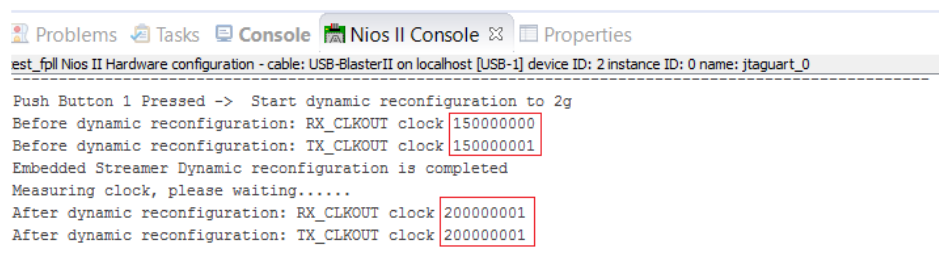

Figure 8. Result of Push Button 1 is pressed
15. When Push Button 1 is pressed, the design starts dynamic reconfiguration to 2Gbps, and after the reconfiguration is completed, the RX\_CLKOUT and TX\_CLKOUT are changed to 200Mhz as Figure 8